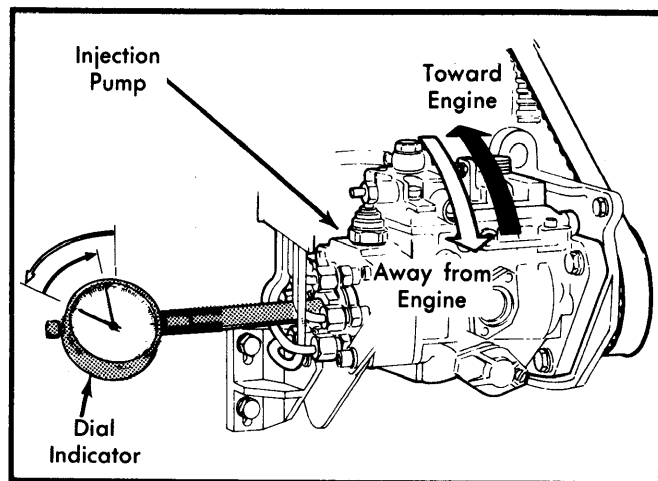

Fig. 11 Timing Volvo Fuel Injection Pump
3) Remove the plug from injection pump cover. Install dial indicator holder (5194) and a 0-.12" (0-3 mm) dial indicator gauge. See Fig. 11. Preset indicator to approximately .08" (2 mm). Turn engine counterclockwise until indicator gauge is at minimum. Set gauge to zero.
7) After adjusting injection pump setting, turn engine twice and recheck setting. See Fig. 11. Readjust as necessary. Remove dial indicator and holder. Install rear timing gear cover.